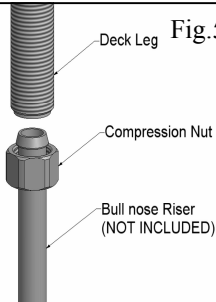

Fig.5
5. Connect the water supply to the **Deck Leg** using either: see [fig 5]